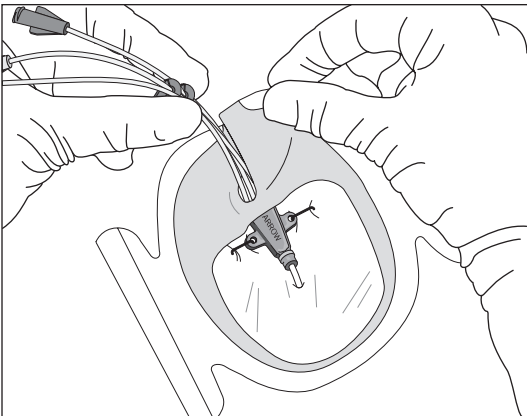

Figure 13
- Overlap softcloth tabs under catheter to form a tight seal around catheter hub and lumens (refer to Figure 13).